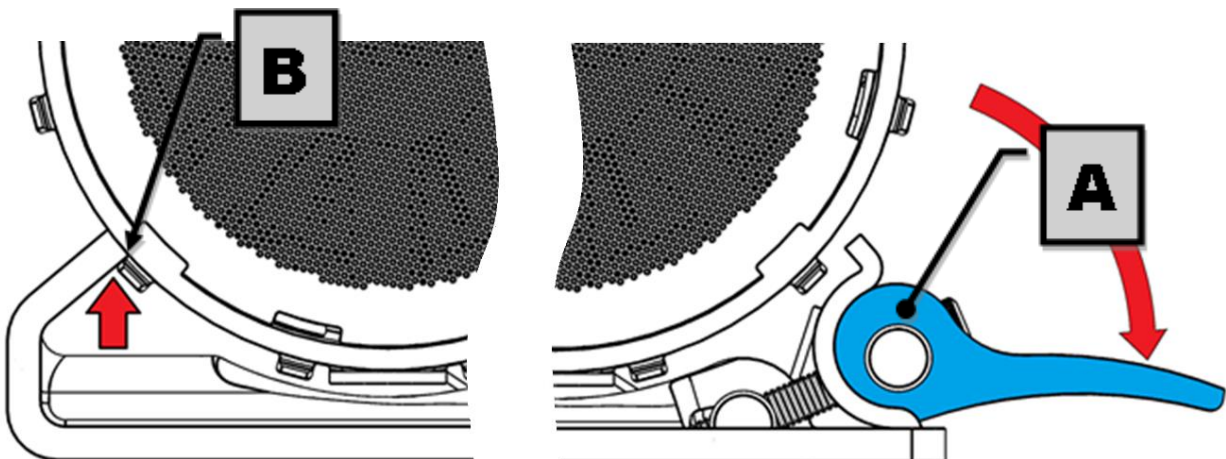

Figure 1. Compressor sitting in unlocked cam-clamp
- ☐ Open the cam-clamp (A), then place the compressor into the clamp in the desired rotational position with the rigid edge of the mount bracket against one of the ribs of the compressor (B) as shown in Figure 1.